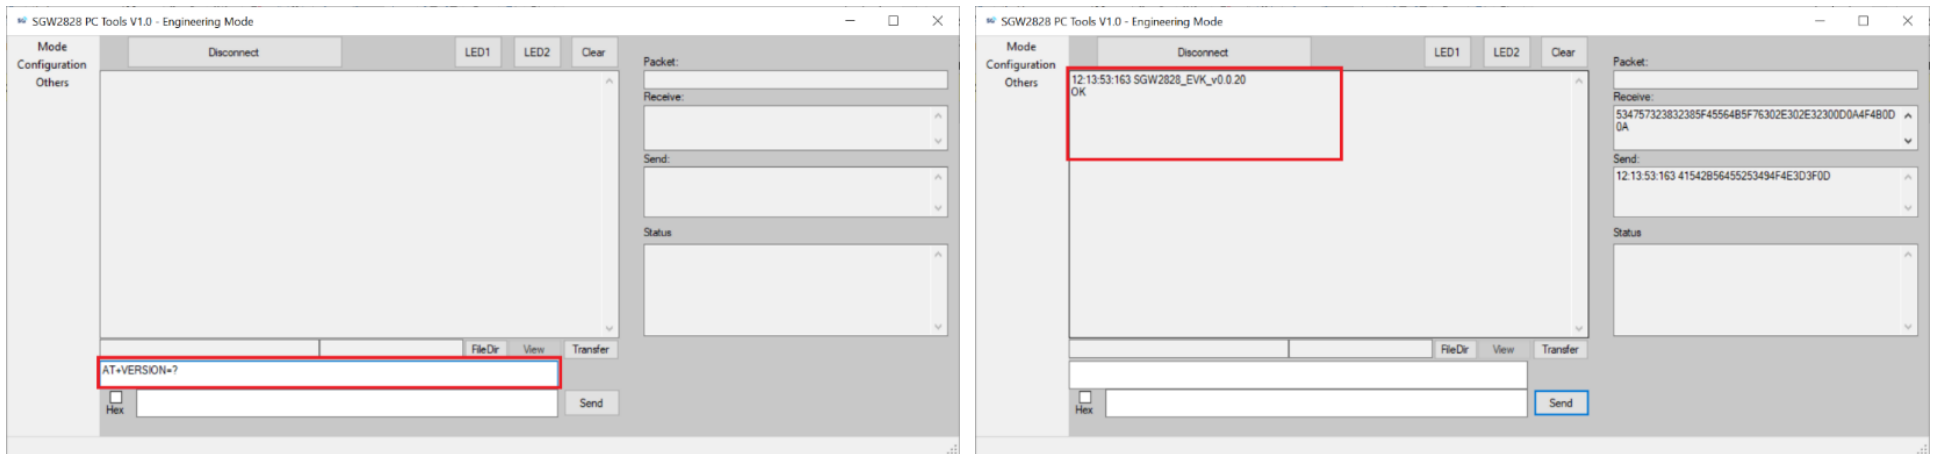

Figure 10: AT Command for Firmware Version
i. *Get Firmware Version (Figure 10)*